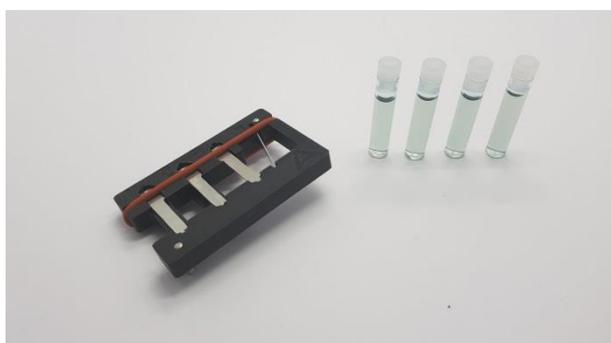

Fig 4. VeriTest Tags and Vials
2. Prepare a new VeriTest Blue Vial for each VeriTest Tags to be evaluated – Fig 4.